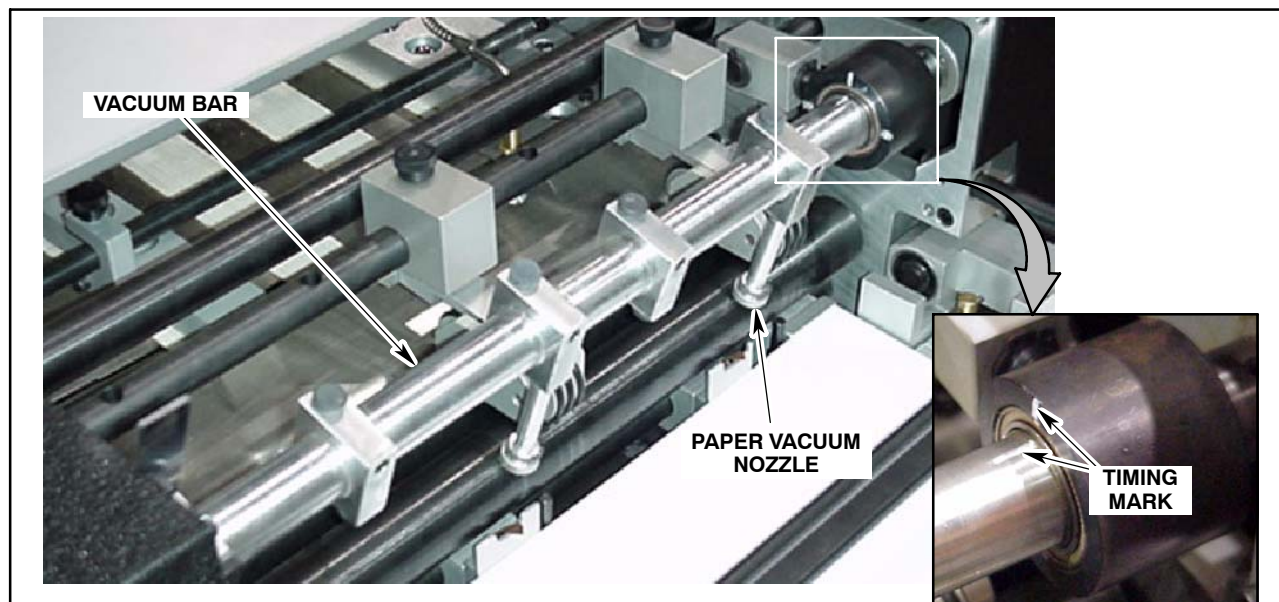

Fig. 4-12. Position the Paper Vacuum Nozzle
**Step: 2.** Nozzles on vacuum bar are correctly timed when positioned as shown in Fig. 4-12.
**Step: 5.** When nozzles have reached correct position, vacuum bar will be properly timed. (See Fig. 4-12. ).
- Cycle paper pile feeder through two complete rotation (See Fig. 4-12. )
- Turn feeder drive shaft counterclockwise to relocate nozzles in correct position. (See Fig. 4-12. )